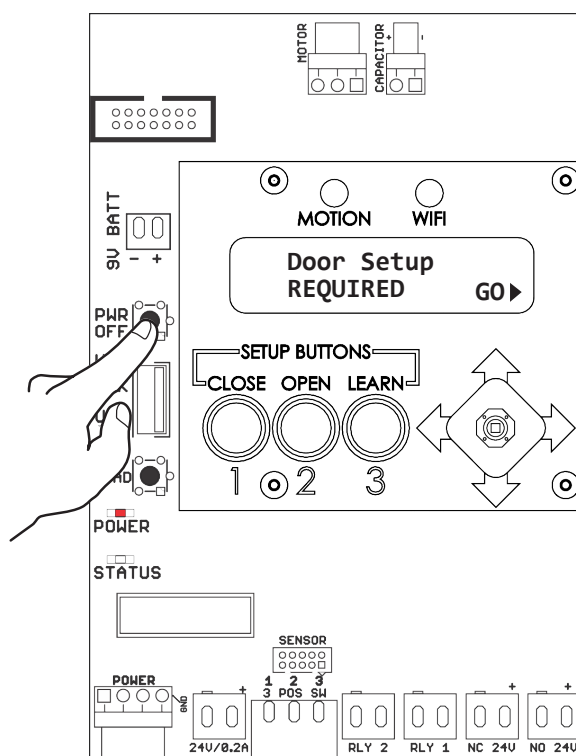

Figure 2
3. Use supplied green connectors to wire in any devices needing outputs, such as electric strikes, mag locks, exit devices, door open position output, etc. (Figure 2) See Input Connections on page 10 and Output Connections on page 11 for information.
4. Turn on building power feed. Power will normally be "On" for operator. Power can be turned on or off by pressing power button. (Figure 2)
- On control board there should be one solid red LED for POWER and one white LED that flashes every 1.5 - 2 seconds for STATUS. CLOSE button of Setup Buttons should be flashing orange continuously. (Figure 2)